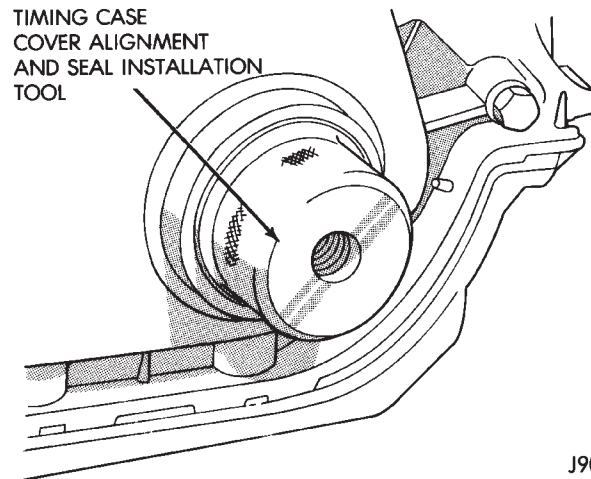

Fig. 5 Timing Case Cover Alignment and Seal Installation Tool 6139
(2) Position the gasket on the cylinder block.
(3) Position the timing case cover on the oil pan gasket and the cylinder block.
(4) Insert Timing Case Cover Alignment and Seal Installation Tool 6139 in the crankshaft opening in the cover (Fig. 5).